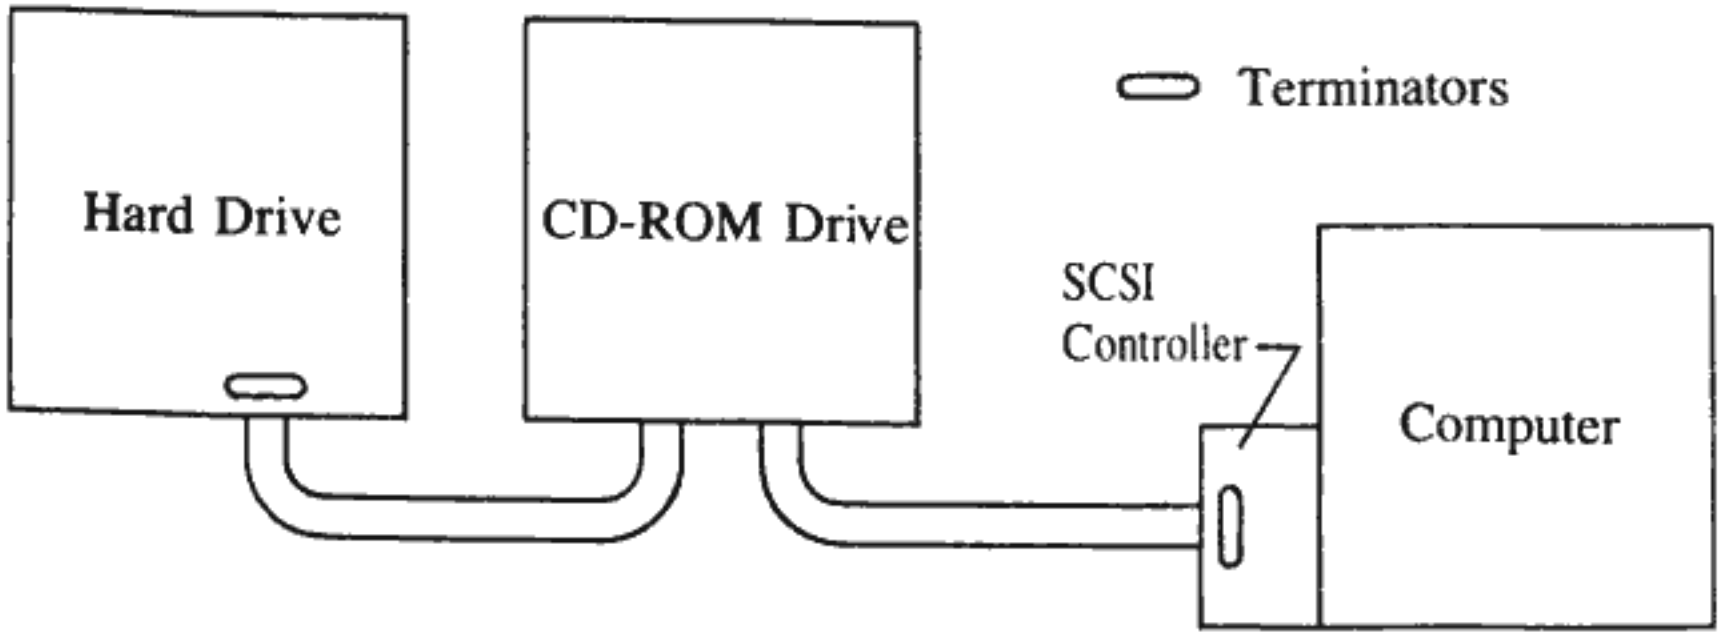

Fig. 4 - Expanded External System
- 6) If you have an external hard drive (that you disconnected in step 4) plug the free end of its data cable into the CD-ROM's remaining connector and tighten the screws. This configuration is shown in fig. 4, p. 9.